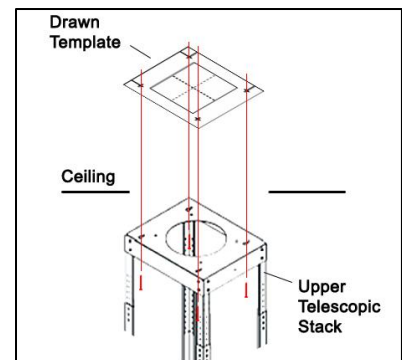

Figure 1
10. Mark centerline of cooktop or range on ceiling. Use centerline marked on ceiling to position the range hood as shown in Figure 1.